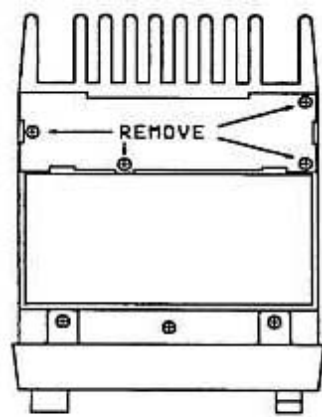

FIGURE 1
4. Remove the two brass colored screws from the top of the plastic front panel. Figure 1.
3. Remove the shield plate from the VHF Final unit (4 screws). Figure 1.
3. Locate the green jumper wire show in figure 1. Using a sharp pair of wire cutters, cut the jumper in half. (green jumper)